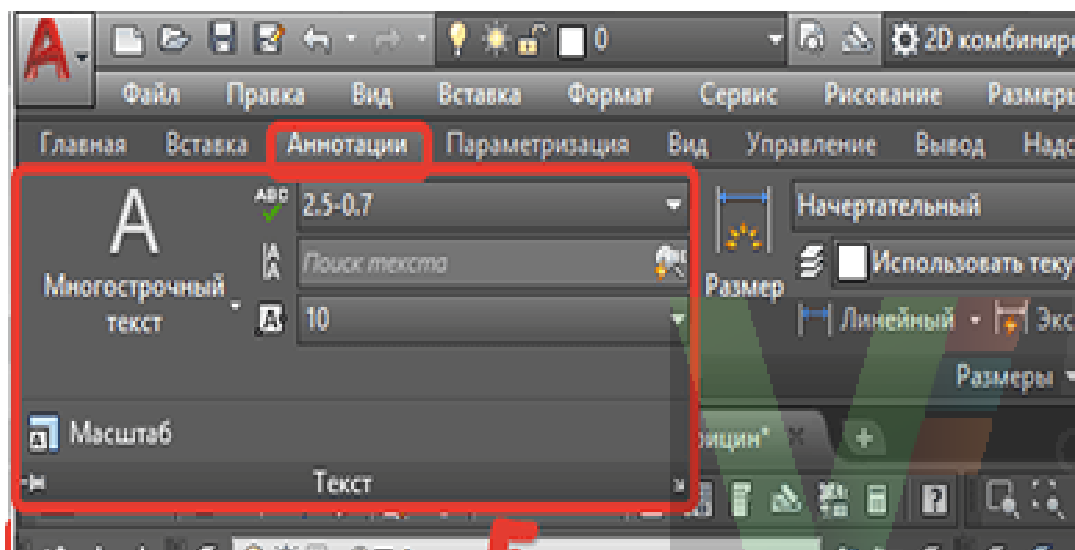
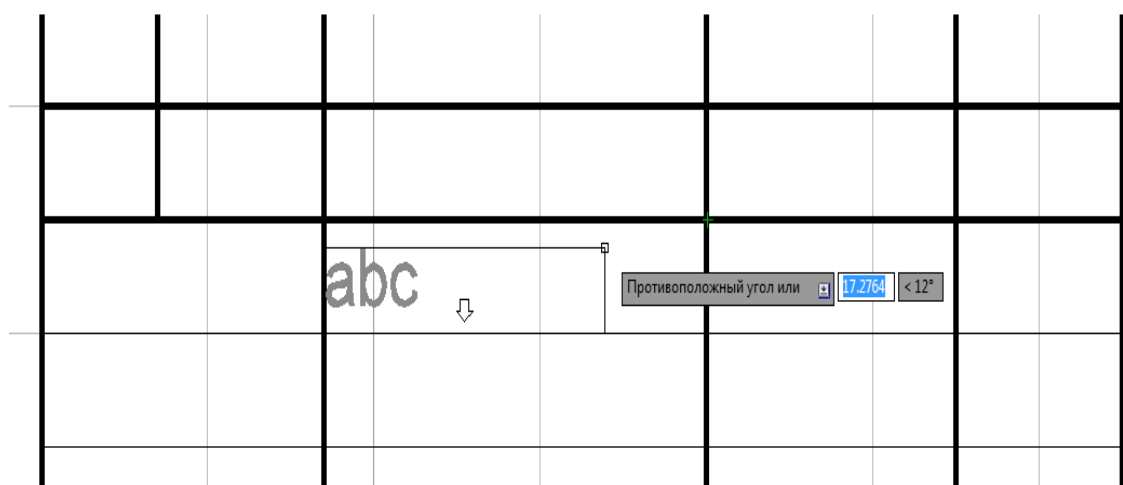

Figure 3.1– Configuration interface
Figure 3.2 – Dynamic frame of the "Text" element
3.2.2 After opening the drawing, select the "Multiline text" element in the Drawing panel (figure 3.1). By clicking on this icon, a white dynamic window will appear, which must be moved to the place where the text will be placed (figure 3.2).